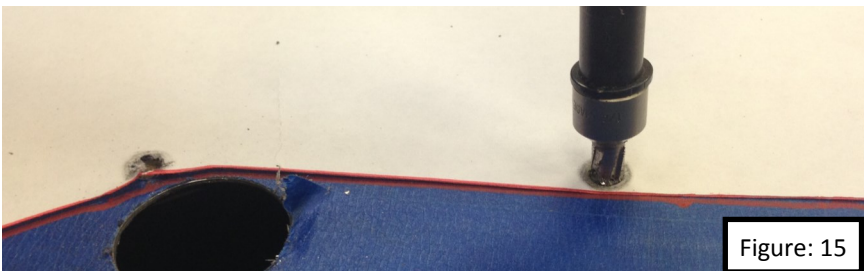

Figure: 15
19. Open up the eight (8) mounting holes on the outer perimeter to 1/4". Figure: 15